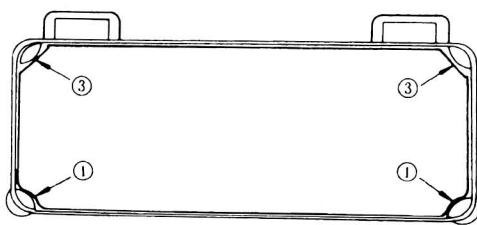
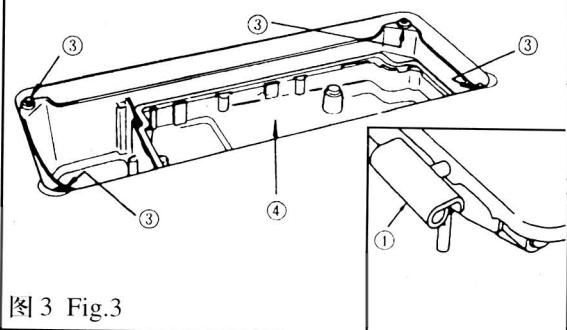
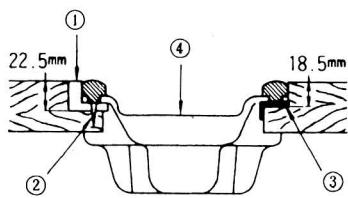
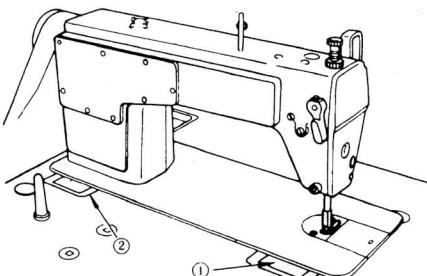

图1 Fig.1
图3 Fig.3
图2 Fig.2
图4 Fig.4
## 1. 机器的安装(图 1、图 2、图 3、图 4)
### 1. INSTALLATION (Fig.1, Fig.2, Fig.3, Fig.4)
- 2) 如图所示, 将两只油盘支座①用油盘座钉②固定在A一边(朝操作者一边), 将两只油盘座垫③用油盘座钉②固定在B一边(用机头连接钩接合一边), 最后把油盘④放在其上。(图1、图2)
- 3) 将机头连接钩①放入底板孔内, 与台板的机头连接钩座②相嵌合, 再将机头放到四只角的机头座垫③上。(图3、图4)
- 2) Fix two rubber seats ① on side A (operator's side) using nails ② as illustrated above. Fix two cushion seats ③ on side B (hinged side) using nails ② . Then place oil pan ④ on the fixed seats. (Fig.1, Fig.2)
- 3) Fit hinge ① into the opening in the machine bed, and fit the machine head to table rubber hinge ② before placing the machine head on cushions ③ on the four corners. (Fig.3, Fig.4)